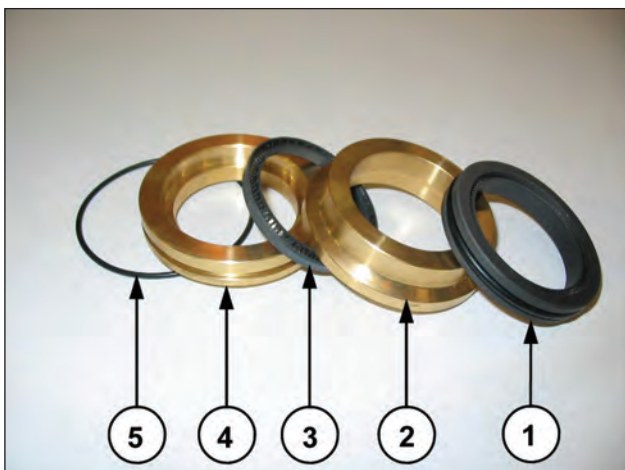

Fig. 22
**Pay attention to the order of seal pack disassembly as indicated in Fig. 22 composed of:**